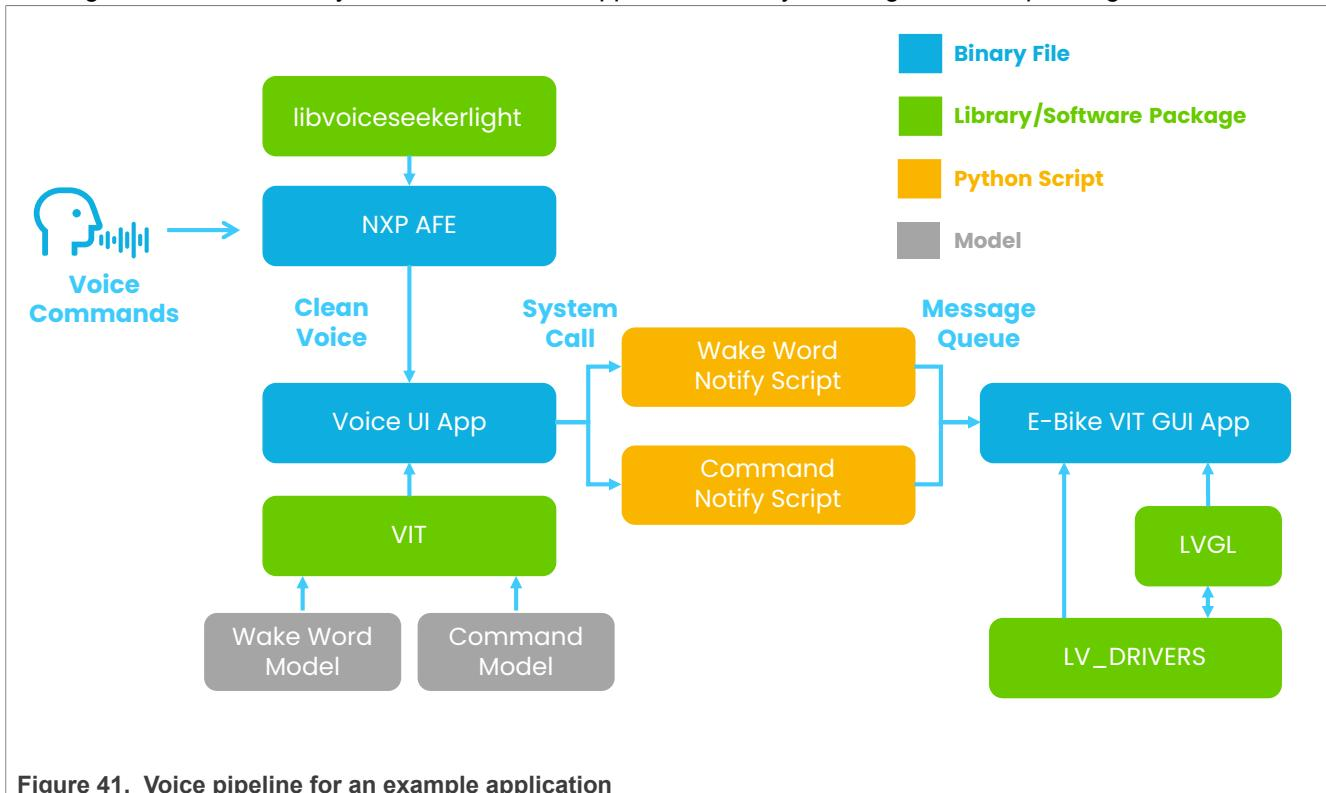

Figure 41. Voice pipeline for an example application
**Note:** *Figure 41* is simplified and does not represent the complete e-bike VIT implementation. Some elements have been omitted and only the key elements are shown.